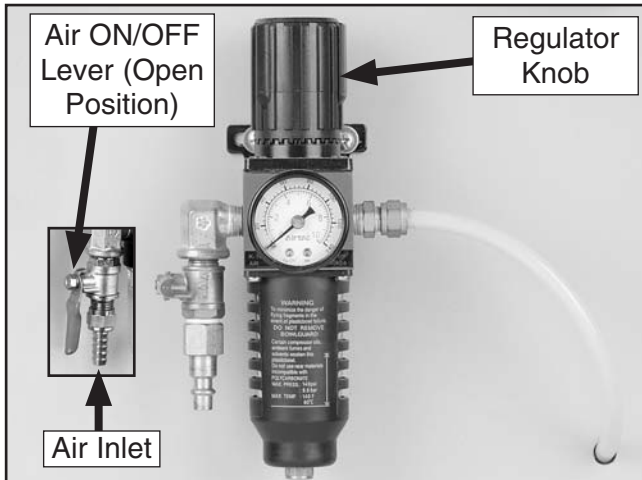

Figure 15. Air hose attached to regulator.
1. Connect the air inlet (**Figure 15**) on the regulator to a compressed air line.
3. Lift the regulator knob (**Figures 15 & 16**) and rotate it until the gauge reads 75 PSI.